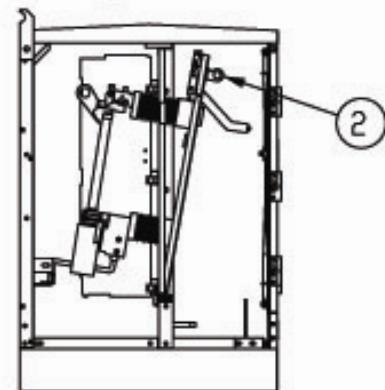

Figure 4
3. Pull out on fuse door release eye (Item 2) to de-energize fuse assembly (Figure 4)
1. Attach the hot stick to the release eye (Item 2) and pivot the fuse door back to the position shown in Figure 4.